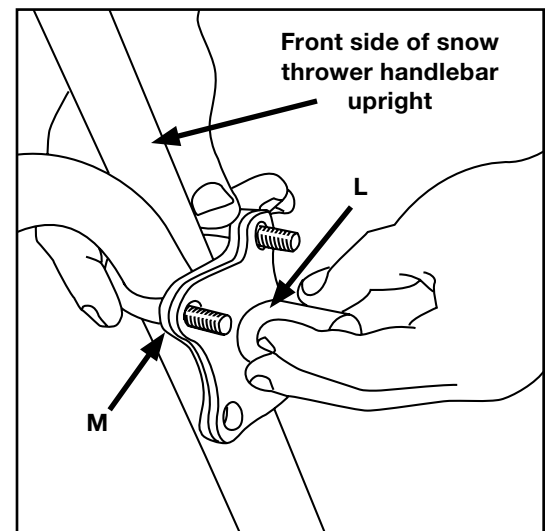

Fig. 1
INSTALL THE MOUNTING POST CLAMPS (FIGS. 1 AND 2)
1. Insert two U-bolts [P] around the Snow Thrower frame and through the mounting post clamp spacer [M1, M2] and the mounting post clamp [L1, L2] as shown. (Fig. 1)